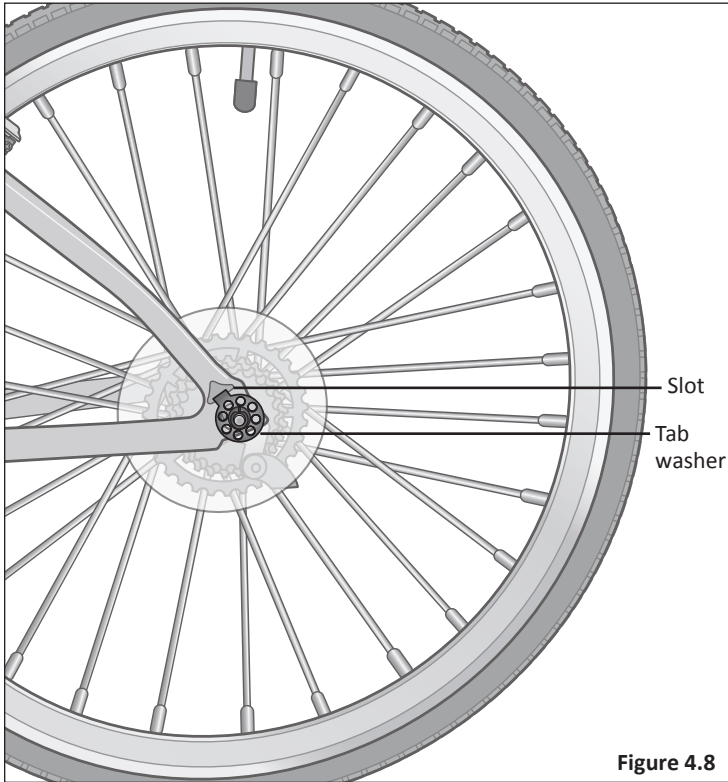

Figure 4.8
- 3 Place the tab washer on the axle. Fit the tab into the slot on the bicycle frame dropout. **Note:** If your bicycle frame doesn't have a slot in the drop out, rotate the tab to fit into the axle slot. **Figure 4.8**